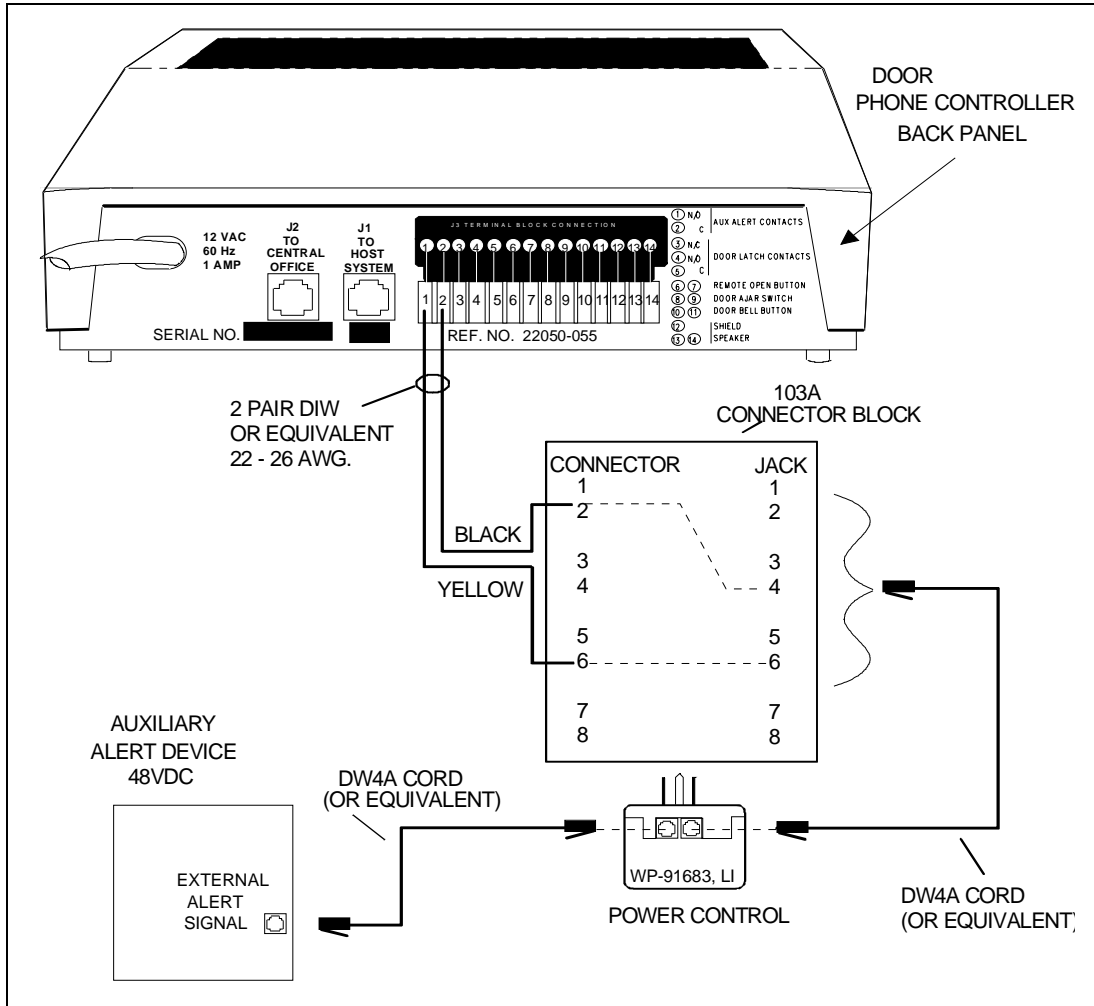

Figure E-1. Connections For Auxiliary Alert Device
2. Run a standard 2-pair wire DIW or equivalent between the Door Phone Controller and a 103A connecting block. Connect jack on the 103A block to the jack marked "Control" on the WP91683 L1 Power Supply with DW4A modular cords or equivalent (see Figure E-1).
On the 110-type connector, connect Terminal 2 to the black wire, and connect Terminal 6 to the yellow wire (see Figure E-1).